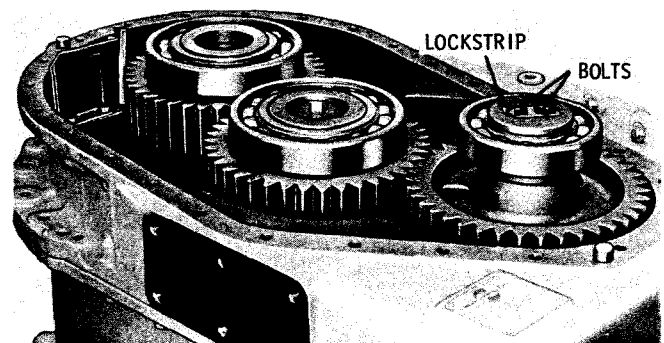

Fig. 7-120. Transfer driven gear rear bearing retaining parts
(10) On models which do not have a rear output or brake, install the lockstrip and two 1/2-20 x 1 1/4-inch bolts. Tighten the bolts to 96 to 115 pound feet torque, and bend a corner of the lockstrip against each bolt head (fig. 7-120).